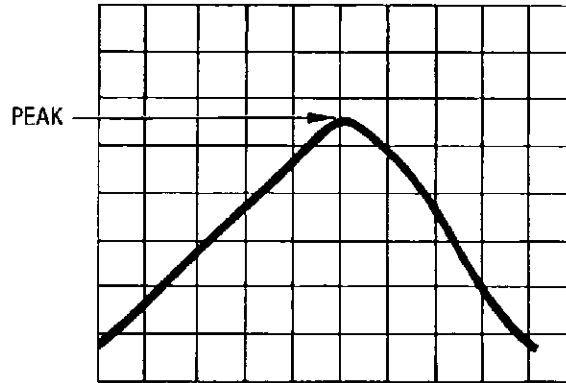

Figure 5-23. Optimum YTM Response
- c. YTM tuning is adjusted by centering the YTM response peak on the oscilloscope display (see figure 5-23). Adjustments are made at the highest and lowest frequency in each band. In addition, band 3 and, for the HP 8673D, band 4 are adjusted at "breakpoints" to correct for tracking deviation at the higher frequencies.